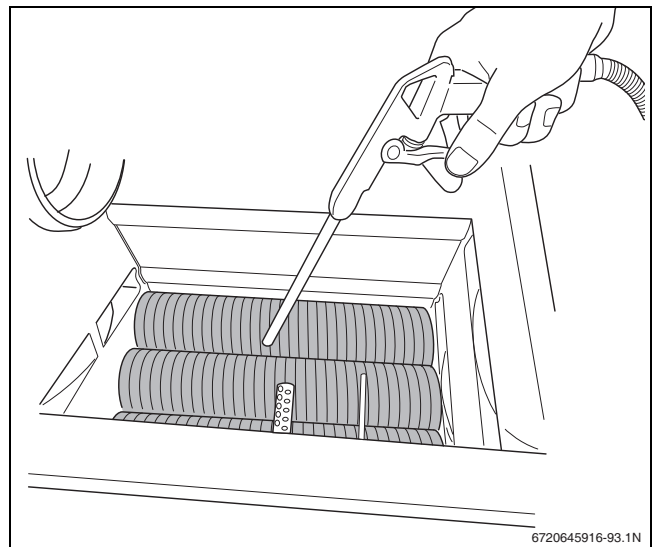

Fig. 95 Cleaning the heat exchanger
- ▶ Clean the heat exchanger with compressed air or a soft brush (→ fig. 95).